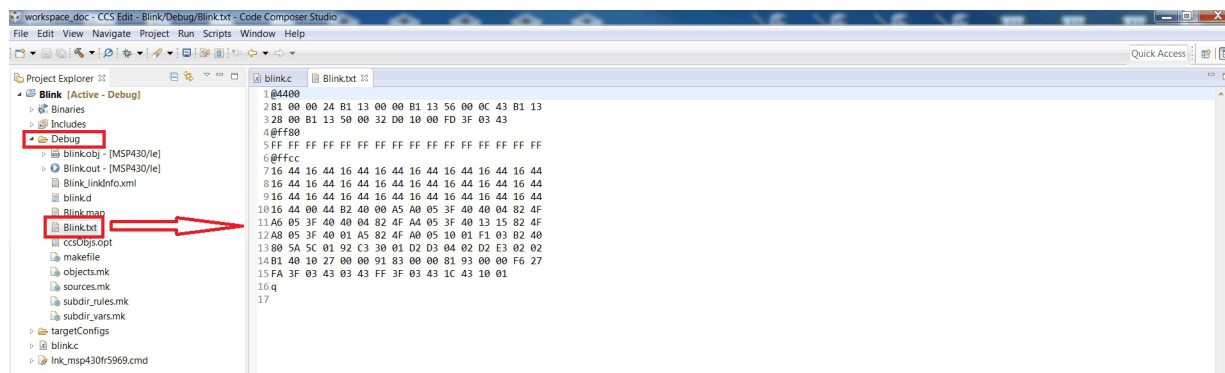

Figure 6. CCS – Output File
5. Build the project. The file **Blink.txt** is generated in the **Debug** or **Release** folder, depending on the build option that been selected (see Figure 6).